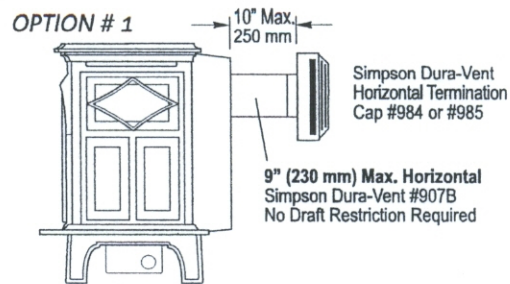

Figure 12-1. Maximum horizontal run to rear termination.
- The maximum horizontal run made directly off the rear of the stove into a standard horizontal cap (#984 or #985) must be no more than a 9" section of Simpson Dura-vent (#907B). See Figure 12-1.